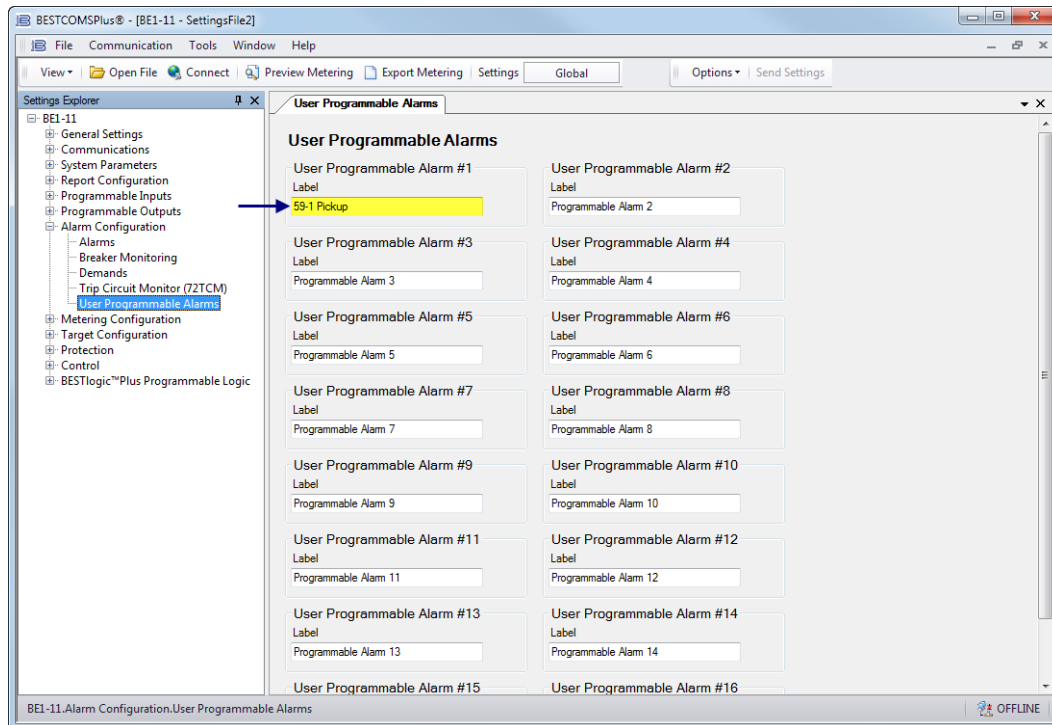

Figure 2-18. User Programmable Alarms Screen
Step 12: In the Settings Explorer, expand Alarm Configuration, User Programmable Alarms, and name User Programmable Alarm #1 (59-1 Pickup) as shown in Figure 2-18.